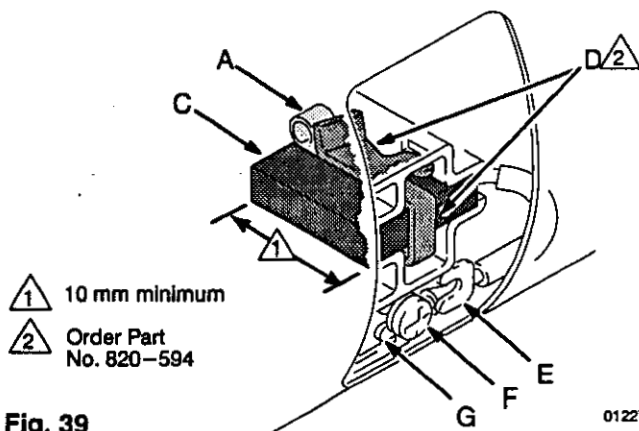

Fig. 39
NOTE: Replace the brushes when worn to less than 10 mm. See Fig. 39. Always check both brushes. Brush Repair Kit 222-157 and spring clip 110-816 are available.
3. Loosen the terminal screw. Pull the brush lead away, leaving the motor lead in place. Remove the brush and spring. See Fig. 39.